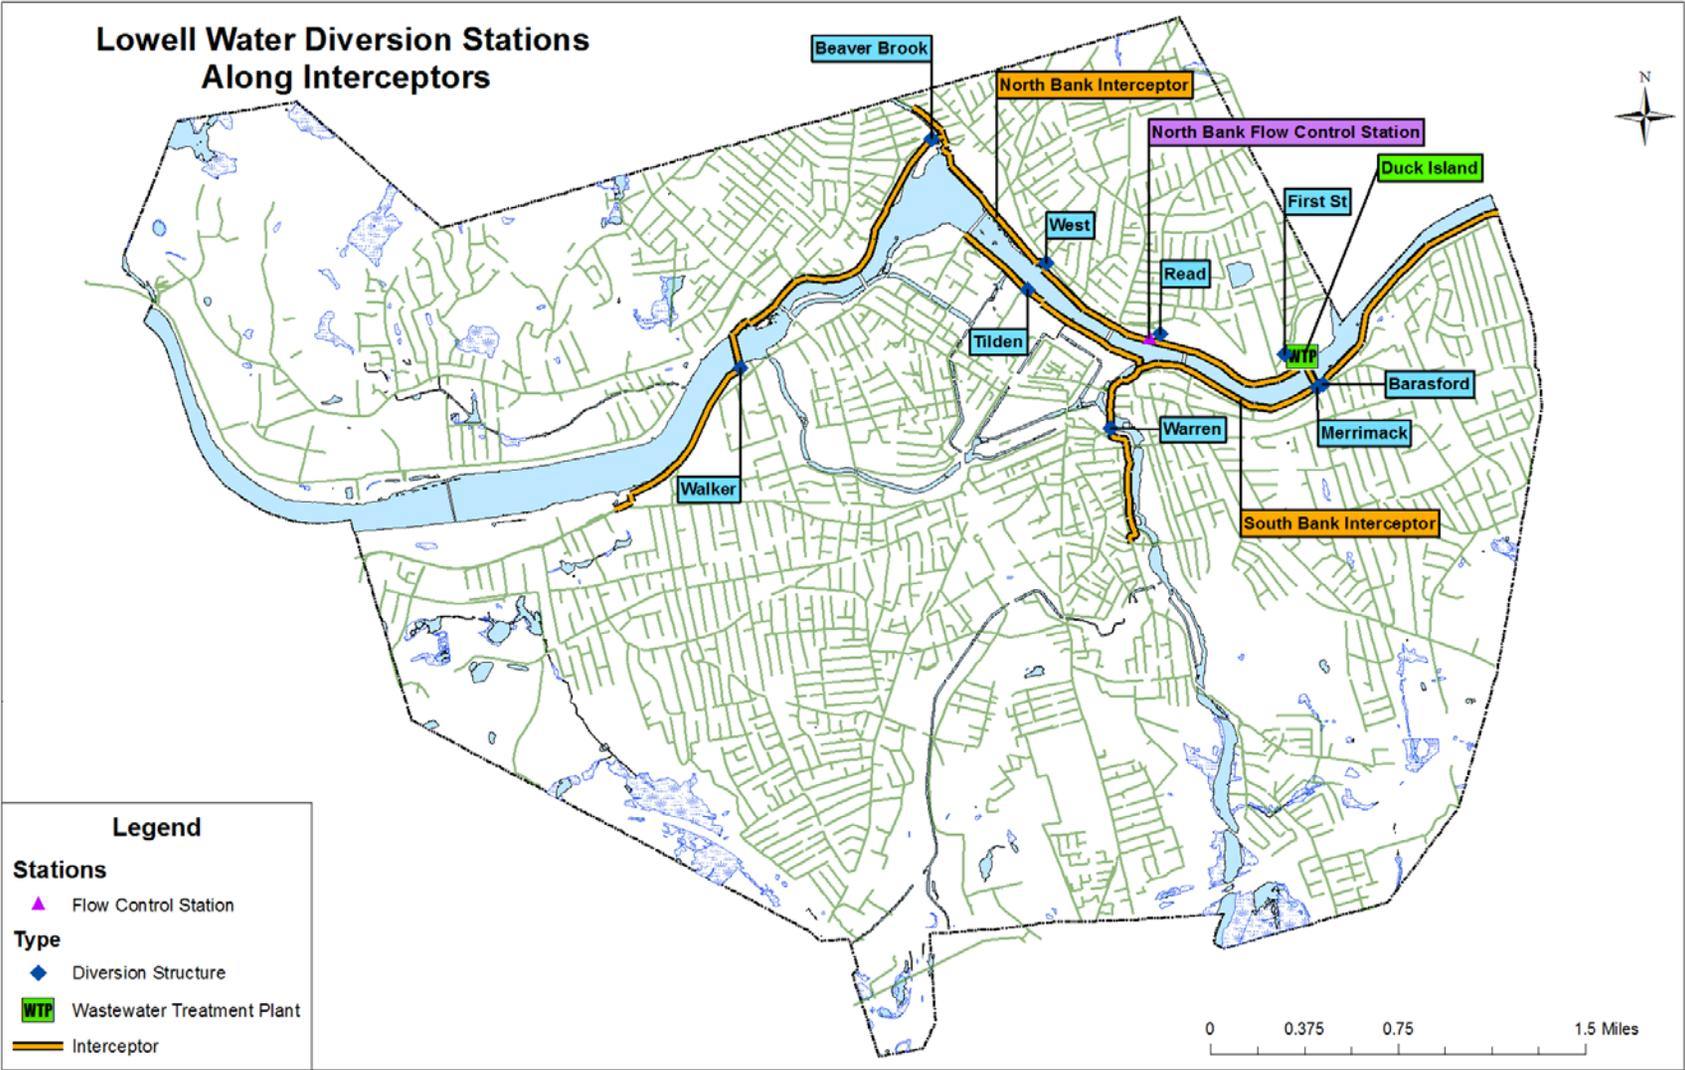

Figure 1. Lowell Wastewater Collection and Treatment Systems Overview
- Figure 1. Lowell Wastewater Collection and Treatment Systems Overview 5
The Utility's sewer system consists of approximately 226 miles of gravity sewers and 14 sewage pumping stations. Nine miles of large-diameter (36-inch to 120-inch) interceptors are located along the banks of the Merrimack and Concord Rivers and collect wastewater from the sewer system and convey it to Duck Island. Duck Island was designed to provide biological (activated sludge) treatment for an average dry-weather design flow of 32 million gallons per day (MGD). There are nine (9) Combined Sewer Overflow (CSO) Stations that divert excess wet weather flow into the Merrimack and Concord Rivers, as well as Beaver Brook, through dedicated outfalls. A plan view of Duck Island, interceptor system, and CSO Stations is provided in Figure 1.